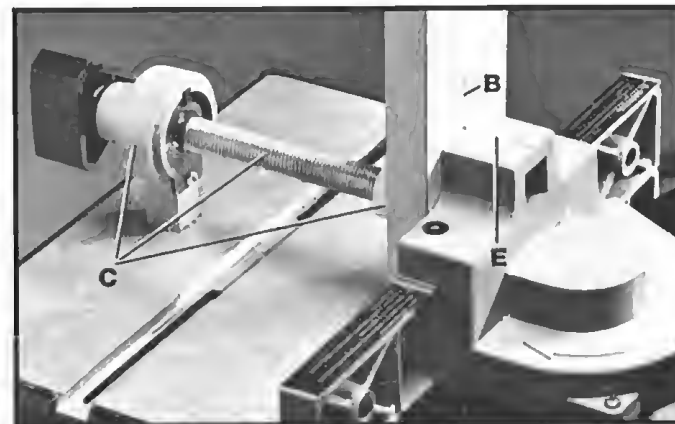

Fig. 45
3. Line up the point marked at (B) in **STEP 1** on the vertical piece with the center line (E) of the cutter and cut the second biscuit slot. This line is located on top of the cutter guard, as shown in Fig. 45. Note the dual position work clamp (C) being used to hold the workpiece.